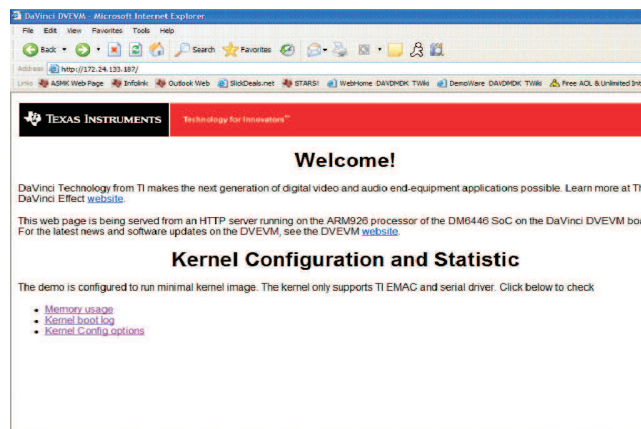

Figure 5. Web Screen Connected to the DVEVM Web Server
4. Connect to the EVM web server by typing the EVM IP address in the URL address box. See Figure 5.